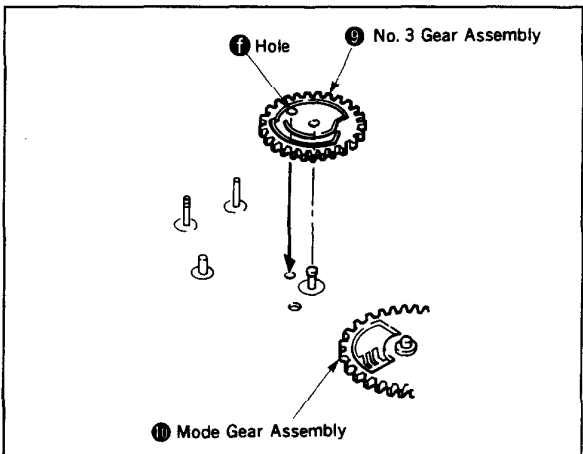

Fig. 33
- 6) Align the hole ⑥ of the No. 3 gear assembly ⑩ with the hole of the mechanical chassis, and at the same time, engage the mode gear assembly ⑫ with the gear to mount. (Fig. 33)